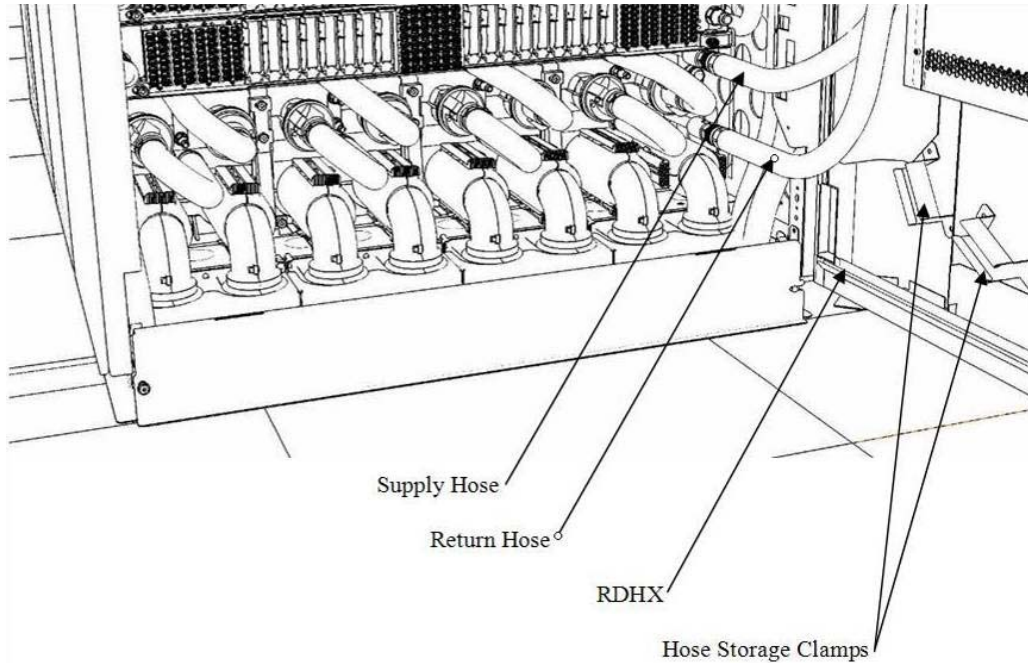

Figure 8 RDHX return hose connected to return manifold
5. After a minimum of 4 hours or when the water being filtered appears to be clear, the filter assembly can be removed. First disconnect the RDHX return hose from the filter assembly then disconnect the filter hose from the return manifold. Reconnect the RDHX return hose to the return manifold (see figure 8).